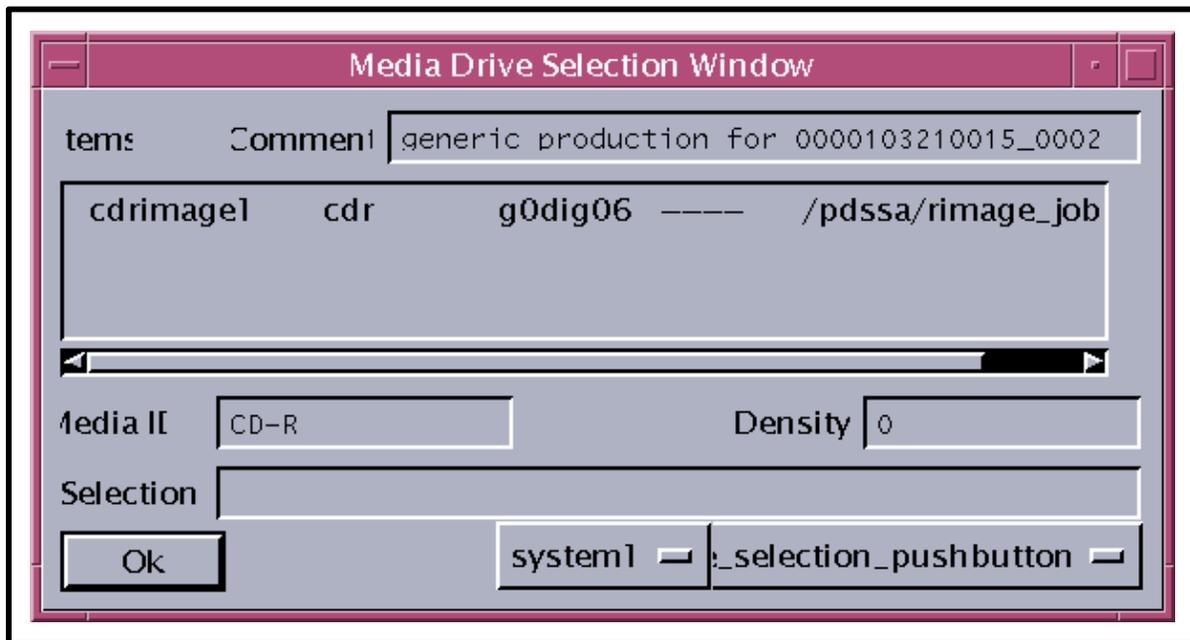

Figure 40. Media Drive Selection Window
The **Media Drive Selection** window (Figure 40) provides the Distribution Technician with a means of designating the drive (i.e., tape drive or CD writer) to be used for a job. After the job
The procedure for responding to the **Media Drive Selection** window starts with the assumption that all applicable servers are currently running and the **Media Drive Selection** window (Figure 40) is being displayed.
- 1 When the **Media Drive Selection** window (Figure 40) is displayed, ensure that there is a blank medium (tape or disk) in the drive.